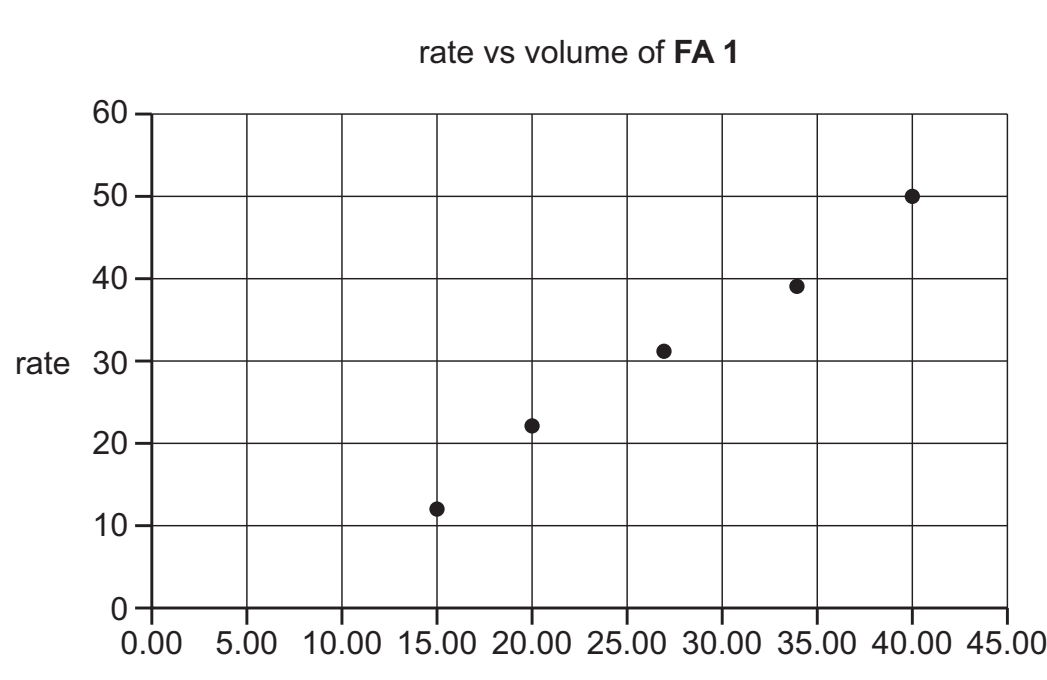

Fig. 1.2
- (c)** A student carries out the same method as given in **(a)** but using a different concentration of acid. The student's calculated values for the rate are plotted on the grid in Fig. 1.2.